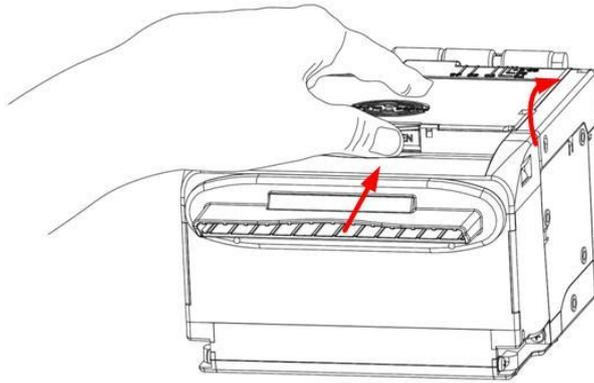

Fig. 5.2-1 Print head and platen roller cleaning
- 2) Press the spanner slightly with hand as shown in Fig. 5.2-1 to open the top cover;
slightly with hand as shown in Fig. 5.2-1 to open the top cover;